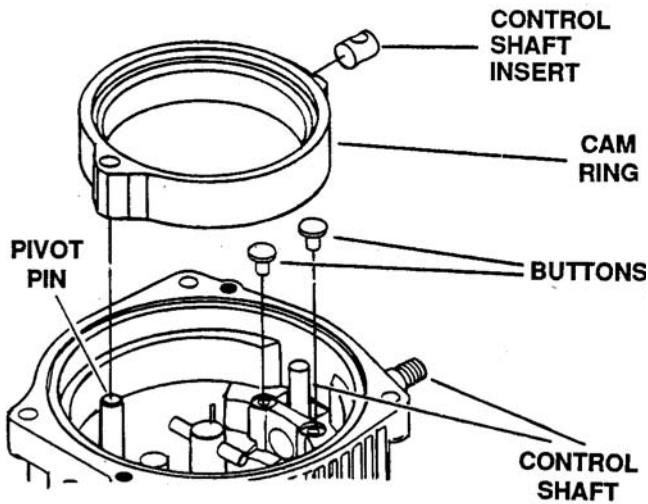

Figure 6-99. Removal of Cam Ring and Control Shaft Insert
12. Slide the cam ring from the pivot pin and control shaft in the cover. Lift ring from the cover and remove the control shaft insert. See Figure 6-99.
14. Remove the two buttons from the cover. See Figure 6-99.